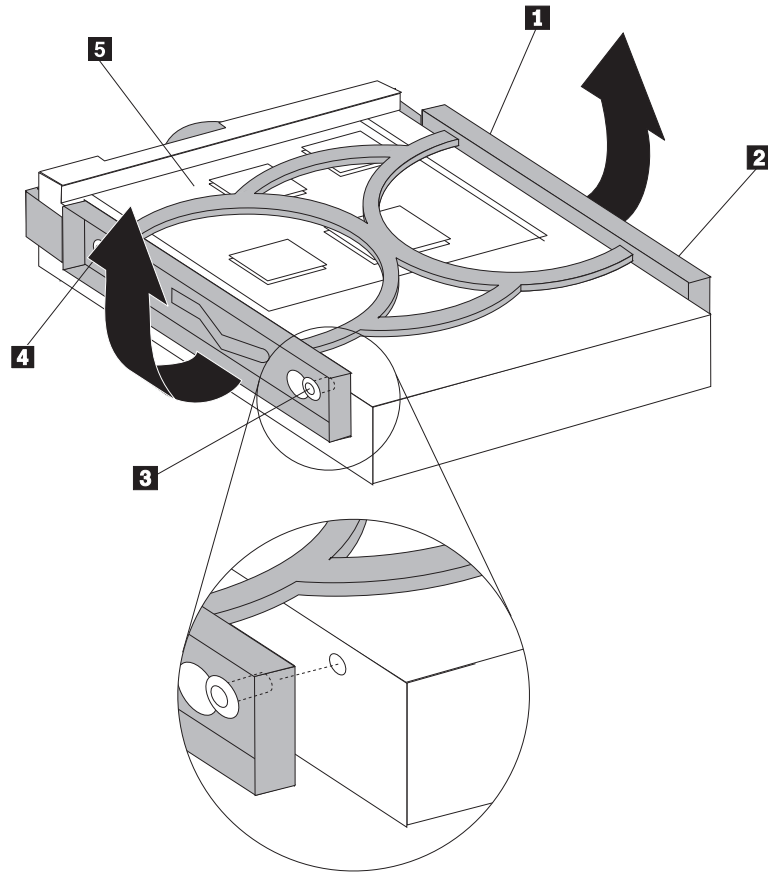

Figure 28. Installing the hard disk drive into bracket
7. To install the new hard disk drive into the blue bracket, flex the bracket and align the pins **1** through **4** on the bracket with the holes in the hard disk drive. See Figure 28. Do not touch the circuit board **5** on the bottom of the hard disk drive.